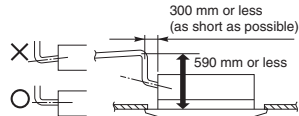

Fig. 3-12
- If it is necessary to increase the height of the drain pipe, the pipe can be raised a maximum of 590 mm from the bottom of the ceiling. Do not raise it any higher than 590 mm, as this could result in water leaks. (Fig. 3-12)